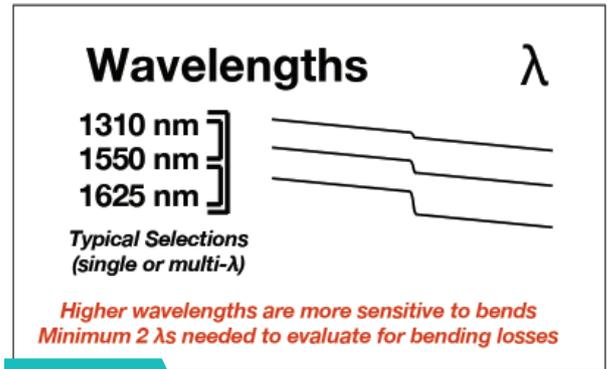

Figure 2.
- While the primary wavelength would be in the wavelength range of operation, the second wavelength should be above the operating range to help identify bending related losses. (See Figure 2.)